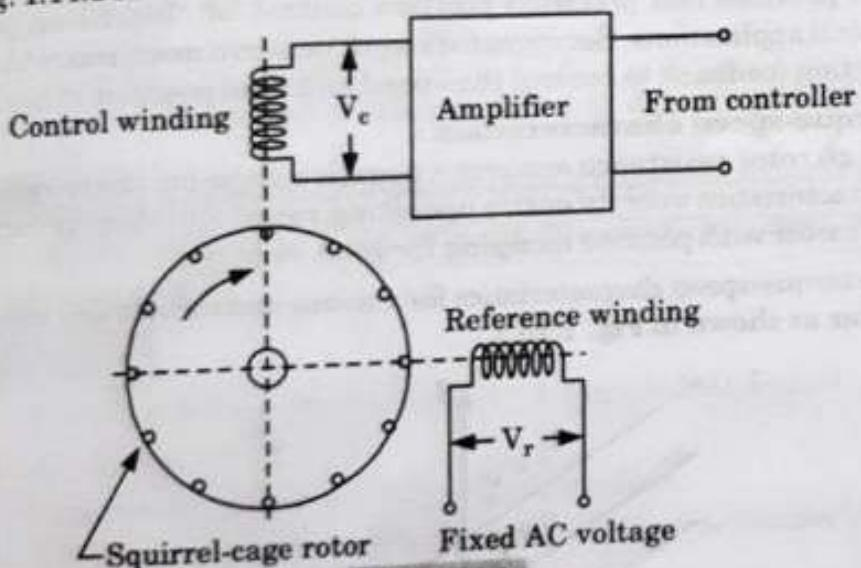

Fig. 1.14.1.
- Fig. 1.14.1 shows the schematic diagram of a 2ϕ AC servomotor.